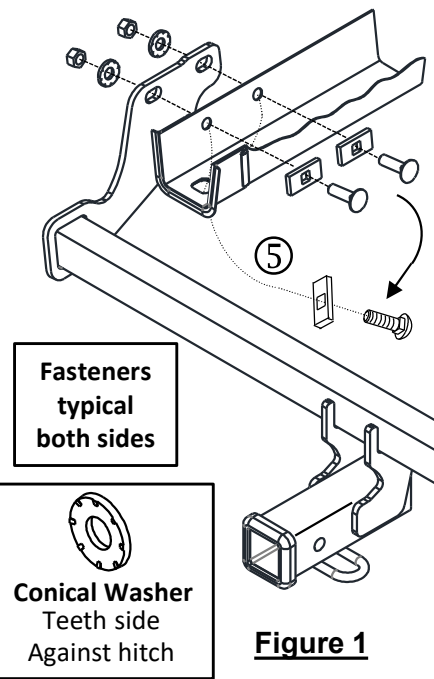

Figure 1
- Install fasteners** – Feed coiled end of pull wire through existing hole on outer side of frame rail and out of Access Hole in bottom of frame, (2) per side. Attach the 1/2" carriage bolts and 1/4" spacer blocks to pull wires and pull the fasteners inside the frame rails. Leave pull wires attached. Temporarily leave fasteners inside the frame rails. **See figure 1.**
- Install hitch** – Raise hitch into position by installing the forward ends of side brackets first with receiver tube angled downward. Feed the all pull wires through mounting holes in hitch. Gently pull down on bottom edge of fascia, then rotate hitch into position. Align holes in hitch with holes in frame. Pull bolts through hitch and into position. Remove pull wires and loosely install the conical washers and hex nuts onto carriage bolts, (4) places (2 per side). Torque fasteners to specifications below.